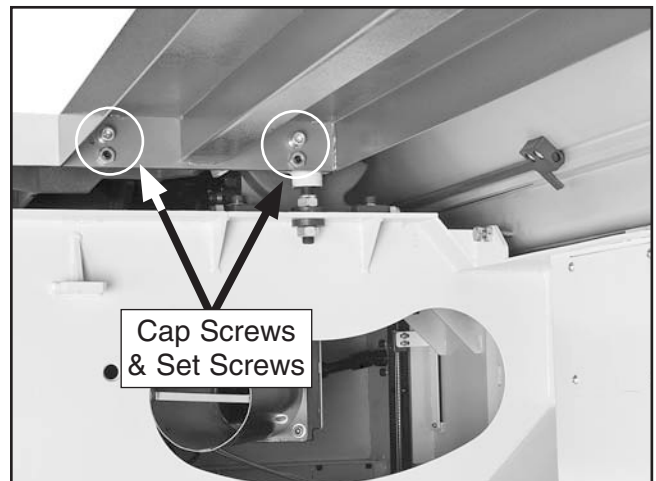

Figure 28. Forward extension wing attached (as viewed under the wing).
26. With the help of another person to hold the forward extension wing, attach it to the cast iron table with (2) M10-1.5 x 25 cap screws, 10mm lock washers, and 10mm flat washers, as shown in **Figure 28**.
28. Thread (5) M10-1.5 x 20 set screws into the threaded holes under each of the extension wing cap screws on both wings (see **Figures 28–29**).